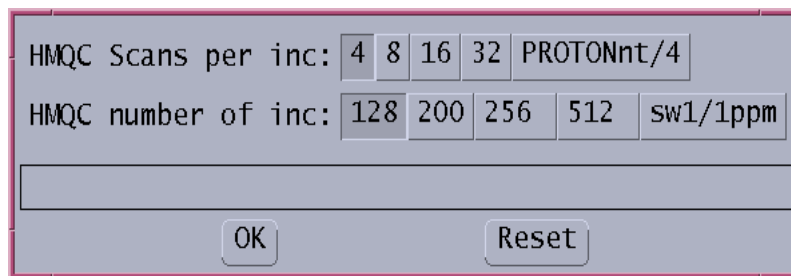

Figure 20. HMQC Customization Window
10. Click on the **HMQC** button in the middle row of the experiment selection menu to open the HMQC customization window shown in **Figure 20**.